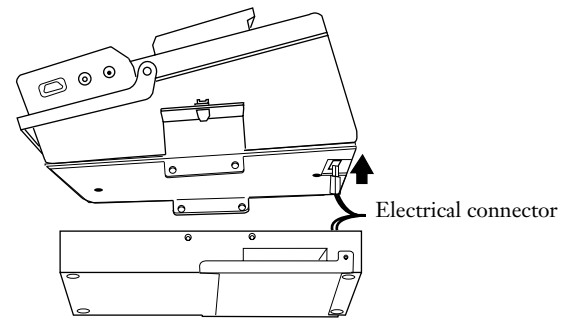

Figure 11
- f) Reattach the electrical plug from the power supply into the splicer’s receptacle (Figure 11).